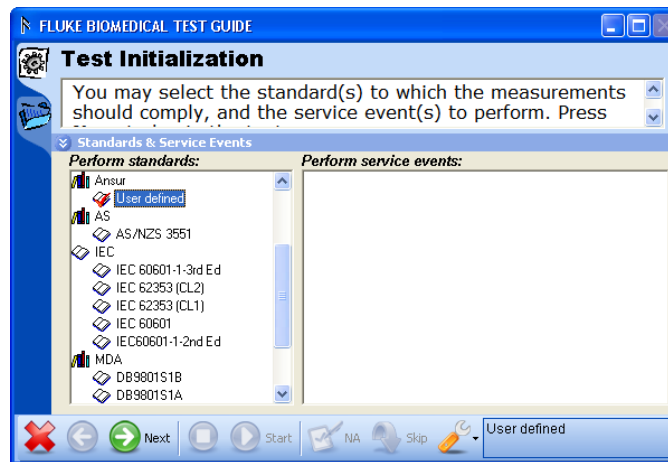

Figure 3-6. Test Initialization Window
7. If applicable, select the standard from the list in the Test Initialization window shown in Figure 3-6 that agrees with the selected test template. For example, if IEC 60601 test template is opened, then select 601.1 standard and deselect the Ansur User Defined standard that is selected by default.